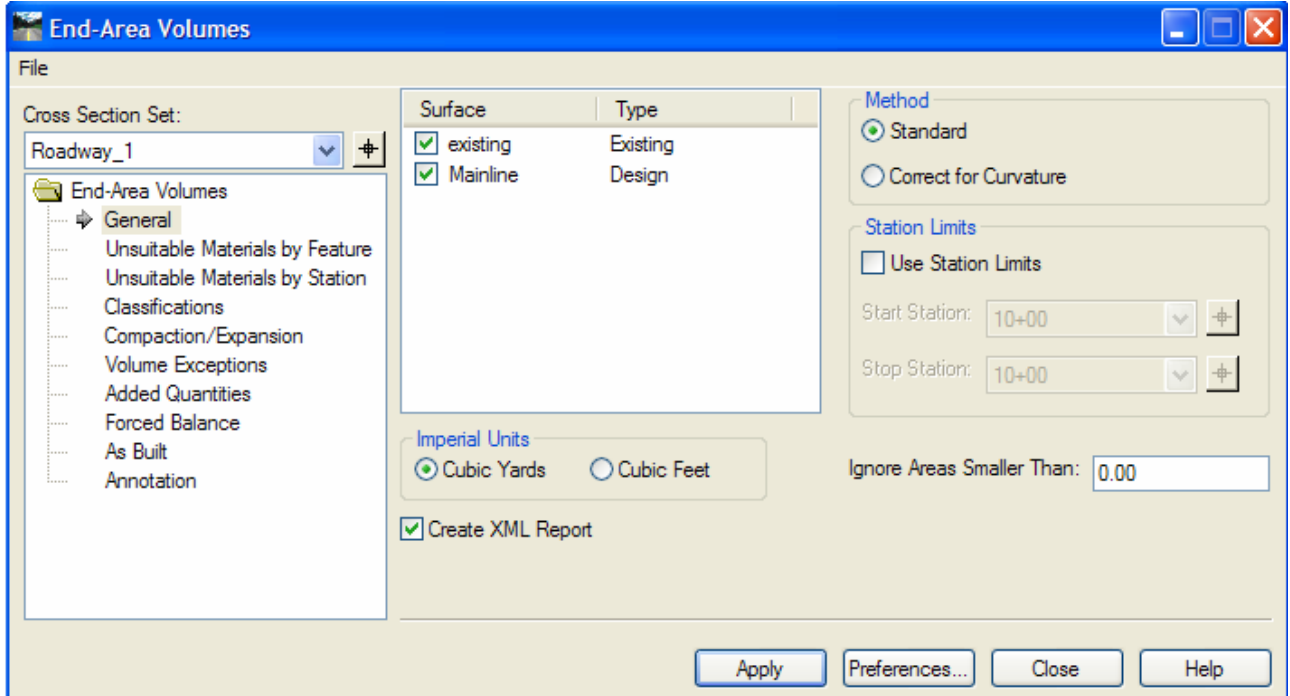

Figure 9-2 InRoads End-Area Volumes Dialog Box
- A. Select **Evaluation > Volumes > End-Area Volume**. The Dialog box shown in Figure 9-2 will appear.